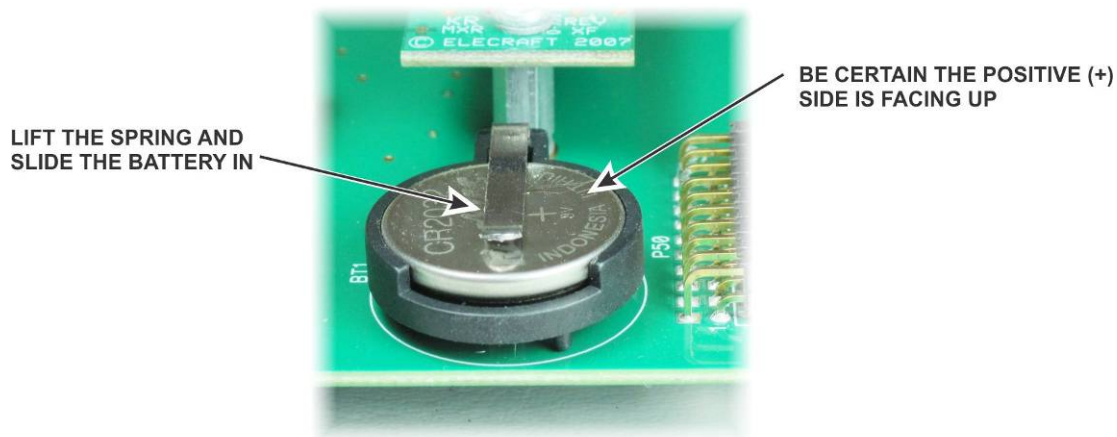

Figure 61. Installing BT1.
- Insert the CR2032 cell into battery holder BT1 as shown in Figure 61. Be sure the positive side of the battery (marked with a +) is facing up.